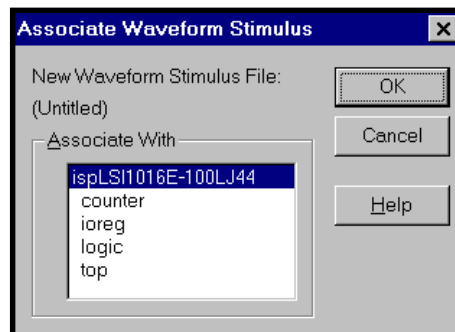

Figure 1-5. Associate Waveform Stimulus Dialog Box
2. Click on Waveform Stimulus in the New field and then click **OK**. The Associate Waveform Stimulus dialog box (Figure 1-5) appears, prompting you to associate the new waveform stimulus file with the selected device or one of your design modules.